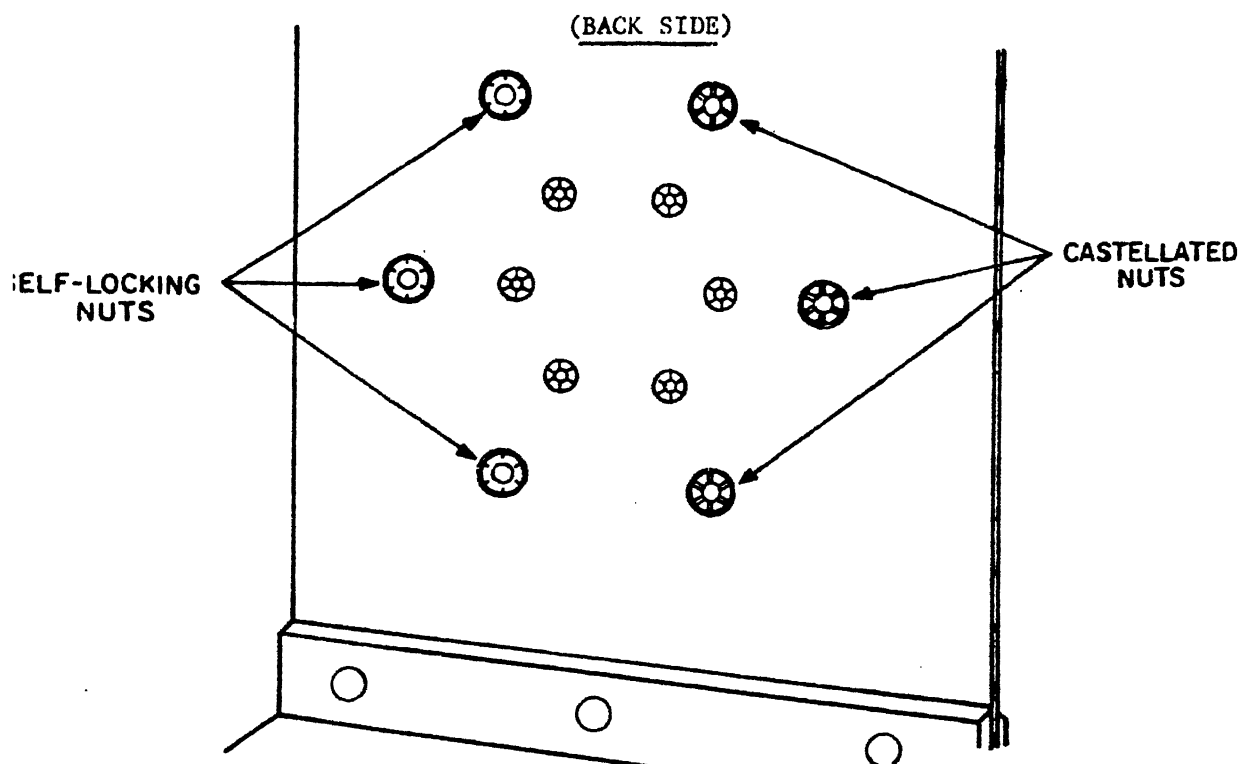

FIGURE 14
*When installing the fillister head screws, in this project, the screw should be secured with the drilled passage pointing toward the center of the plate. The 5/16 hex head bolts should be secured with the drilled passage in the bolthead parallel to the base of the fixture. Figure 14 illustrates completion of the following steps.
*Secure three of the bolts with 5/16-inch self-locking nuts. Use 5/16-inch castellated nuts on the remaining three bolts. See figure 14.